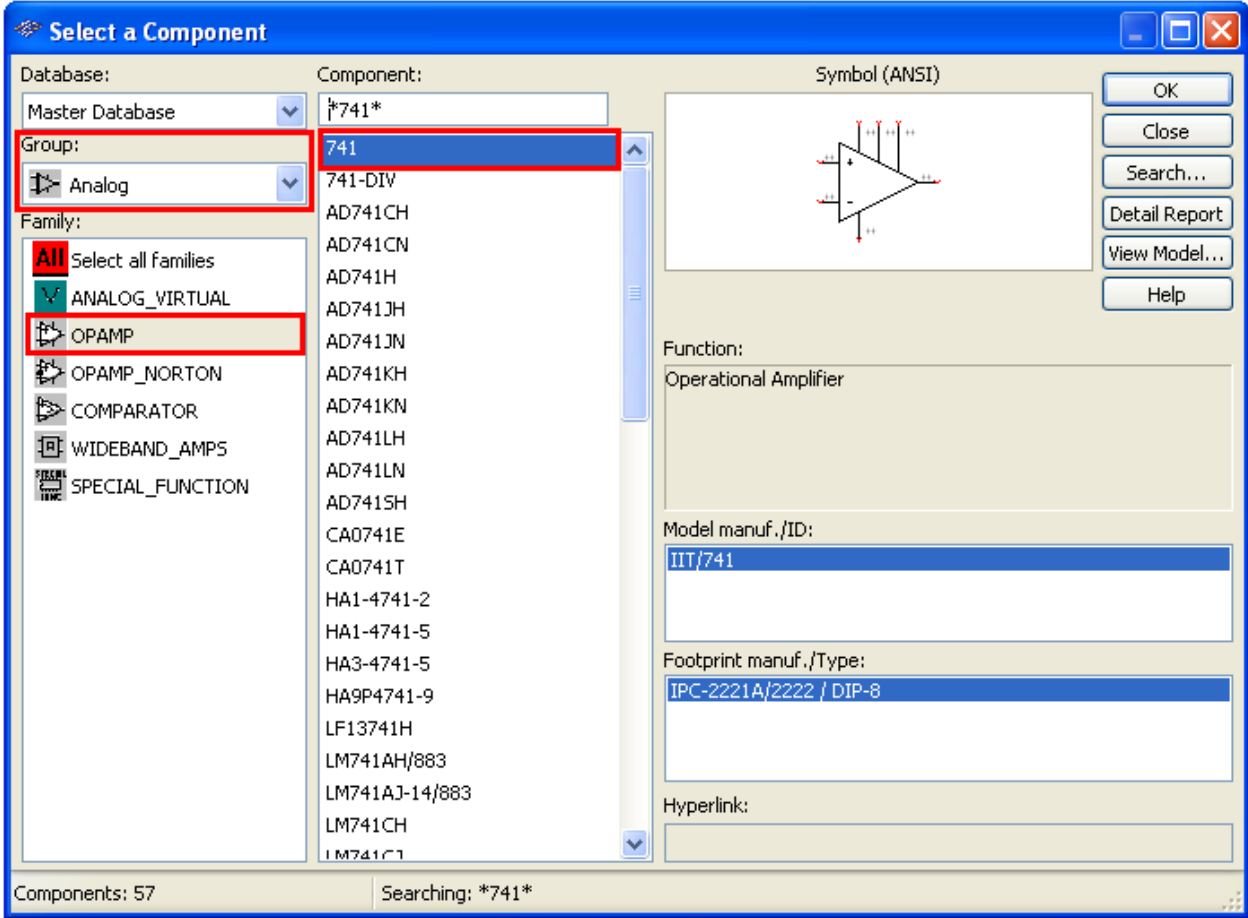

Figure E1-2. Component Browser
- d. Accept the 741 by clicking **OK**. Notice that the **Component Browser** seen in Figure E1-2 now displays the exact location of the 741 (Analog Group, OPAMP family).